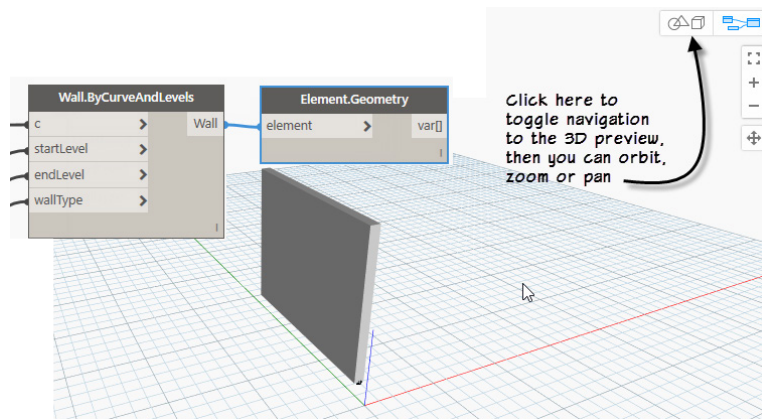

Figure 23
23. Wire the output of the **Wall** node into this node (see Figure 23).